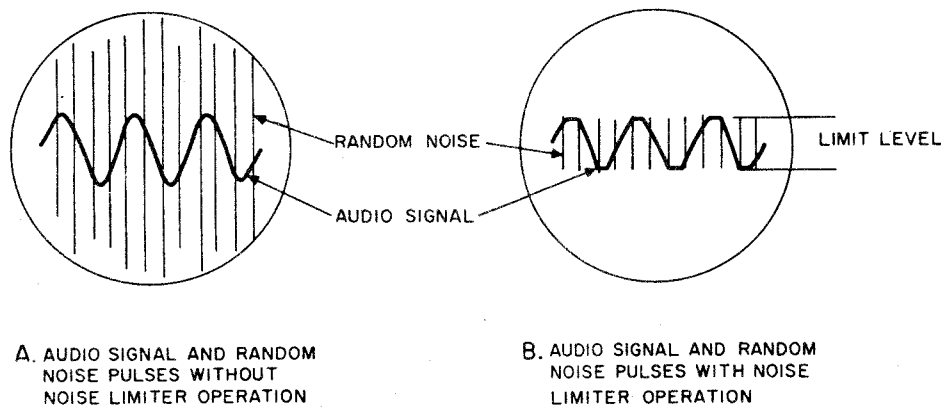

Figure 3-8. Typical Oscilloscope Presentation of Limiter Operation
3.2.11.2 Limiter V507 is a series-type diode limiter, which couples the audio signals from the detector to the audio channels. When LIMITER switch S108 is in the OFF position, audio signals pass through V507 without any limiting action. When switch S108 is turned on, the amount of limiting is controlled by LIMITER control R120. The limiter uses both sections of a twin-triode tube. The B-section of the tube is the negative peak limiter, and the A-section is the positive peak limiter. Both positive and negative noise peaks are clipped. As the LIMITER control is turned more and more clockwise, the dc threshold voltage approaches chassis ground potential and more severe clipping occurs. Figure 3-8 shows that the audio signal as well as the noise will be clipped if the LIMITER control is turned too far clockwise. The circuit automatically adjusts to any level of signal input and modulation percentage.